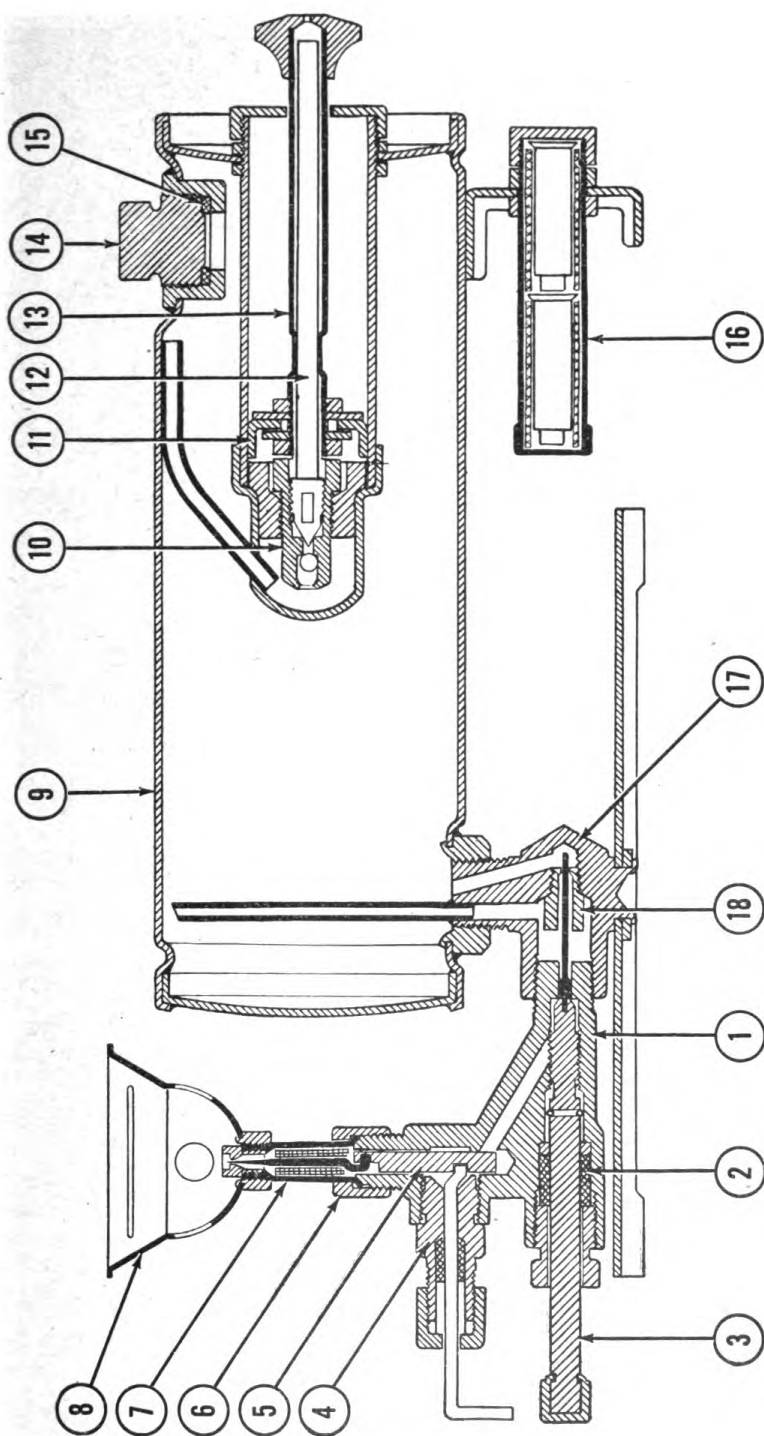

Figure 17. Cross-section of burner, one 2,500 B.t.u. head—Item No. 9R10005.
c. The fuel control valve has an extension which acts in the same capacity as the fuel control rod of the other stoves and burners. This extension projects into the instant light body, and movement of the fuel control valve stem actuates both the fuel control valve and the instant light body valve (fig. 17). The principle involved in the operation of generating the instant light mixture, in controlling the movement of the mixture, and, subsequently, in controlling the movement of the gasoline to the burner head is identical with that of the other stoves and burners. The mechanical arrangement of this burner differs, however, from that of the others, principally because it is a horizontal unit whereas the others are vertical units.